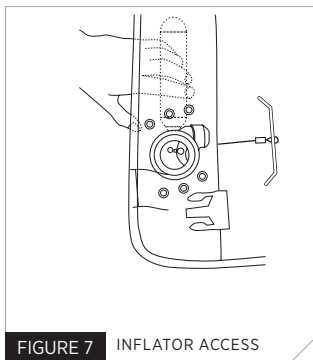

FIGURE 7 INFLATOR ACCESS
- 1) Place the life jacket on a smooth, flat surface and wipe off any water. Access the inflator by reaching under the cover (Fig. 7) and pulling the yellow cap toward you, turning the cell and cover inside-out completely to fully expose the inflator for re-arming. Hold the CO2 cylinder through the fabric, using one hand.